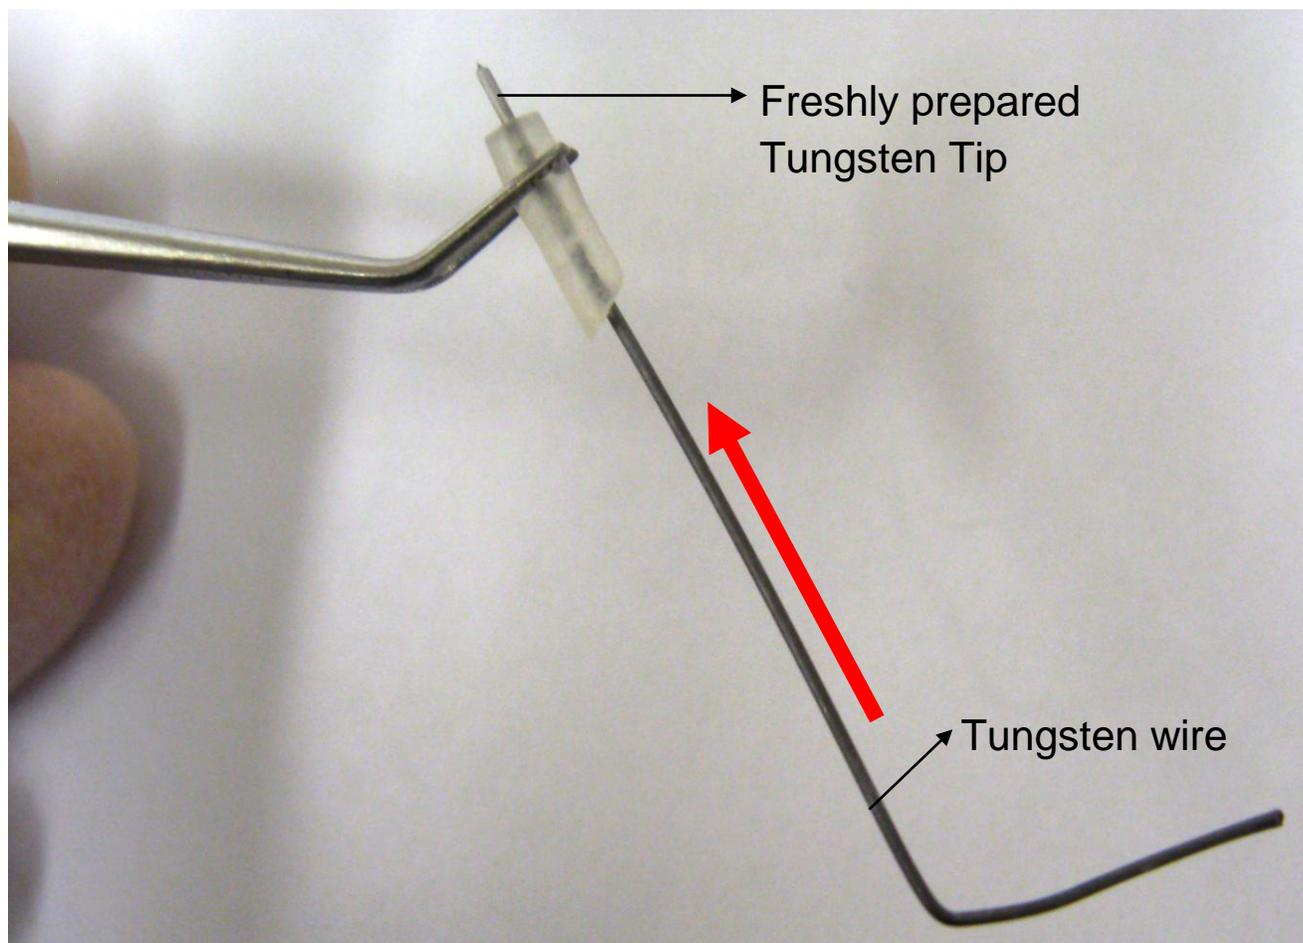
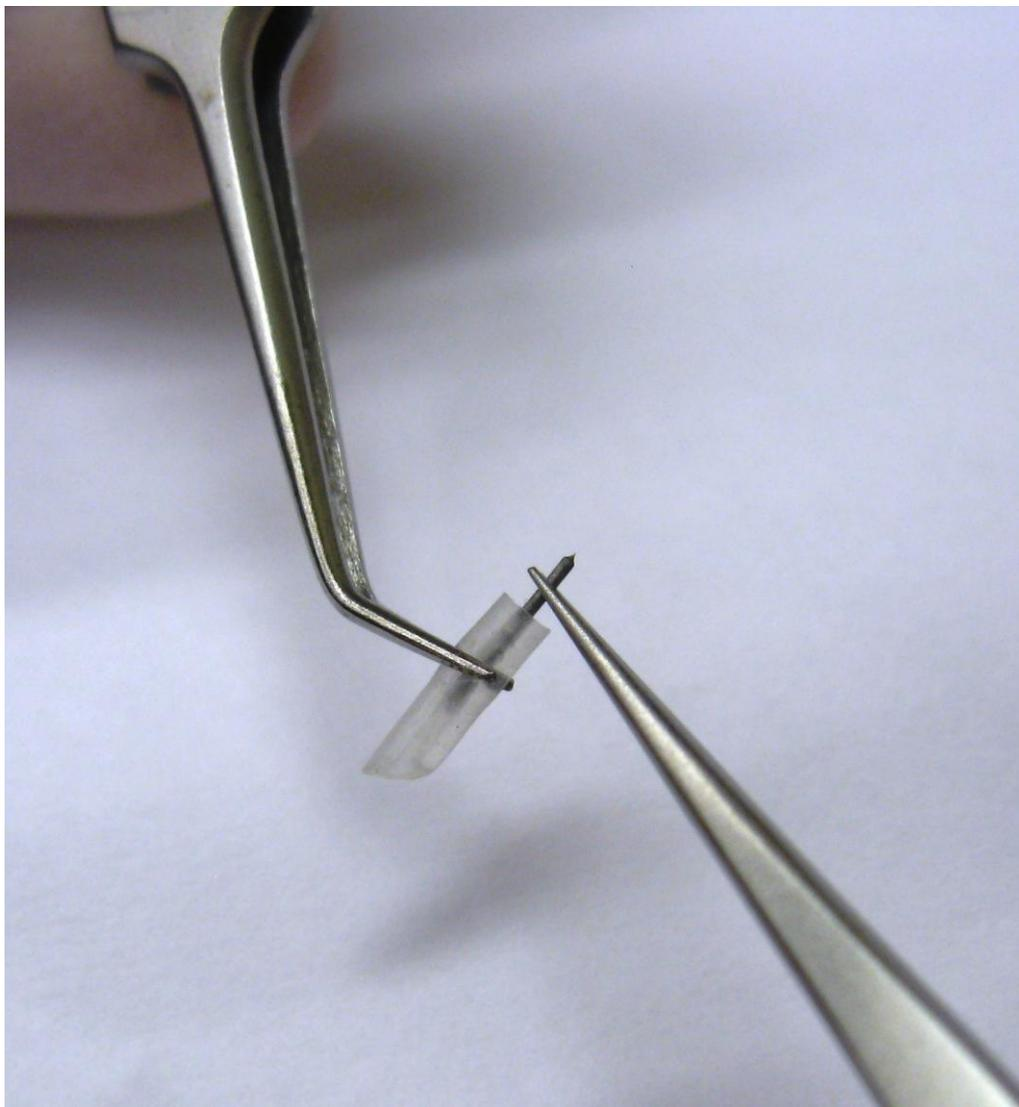

Fig. 4: Picture illustrating how the freshly prepared tip is pushed out of the flexible tubing, by making use of another Tungsten wire
Fig. 5: Taking the Tungsten wire out of the tubing right before the cleaning process begins
- *tweezers* – ‘curve tips’ and ‘very fine rounded points’ types of tweezers have been used (see Fig. 5); ordered from Techni-Tool;
12. Once the tubing (which contains the actual tip) falls off, ***carefully take it out of the solution*** with tweezers; using a piece of Tungsten wire, push the tip half way out and grab it with another pair of tweezers (see Fig. 4 and Fig. 5); the cleaning process should start immediately;